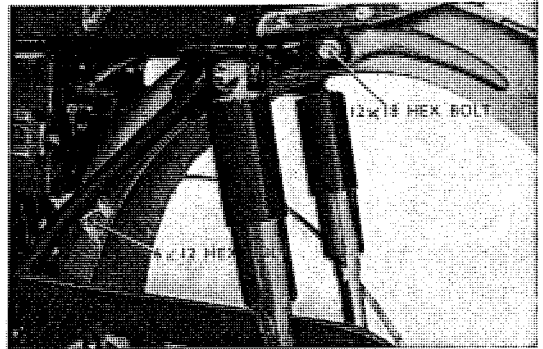

Fig. 4.62 Disassembly of rear fender
7. By loosening two 6×12 and 12×18 hex bolts, the rear fender can be removed from the frame. (Refer to Fig. 4.62)